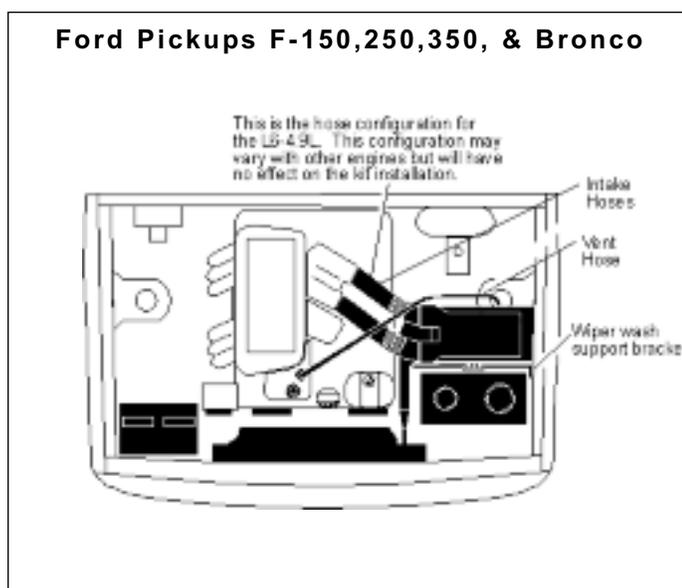

Fig. 1
**NOTE:** See fig. 1 for stock part locations.